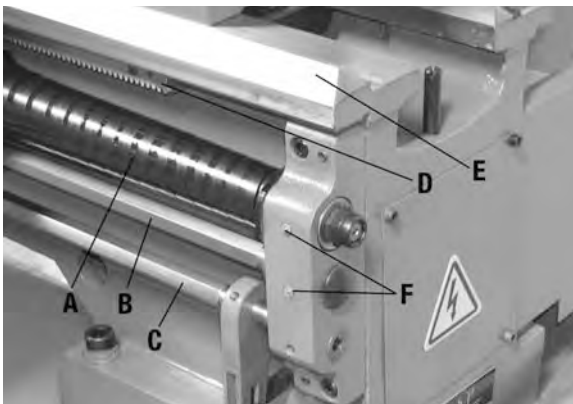

FIGURE 36
Make sure to lubricate the leadscrew (A) Fig.36, feed rod (B) and switch control rod (C) with machine oil. Apply machine oil to the racks (D) and guide ways (E). Make sure they are clean before lubricating. Lubricate the ball oilers (F) with regular machine oil.